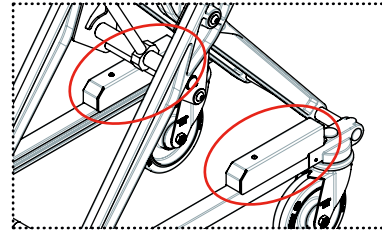

FIGURE 6
- Open the two front covers (see Fig. 6) to check that the cable is not worn or slack.